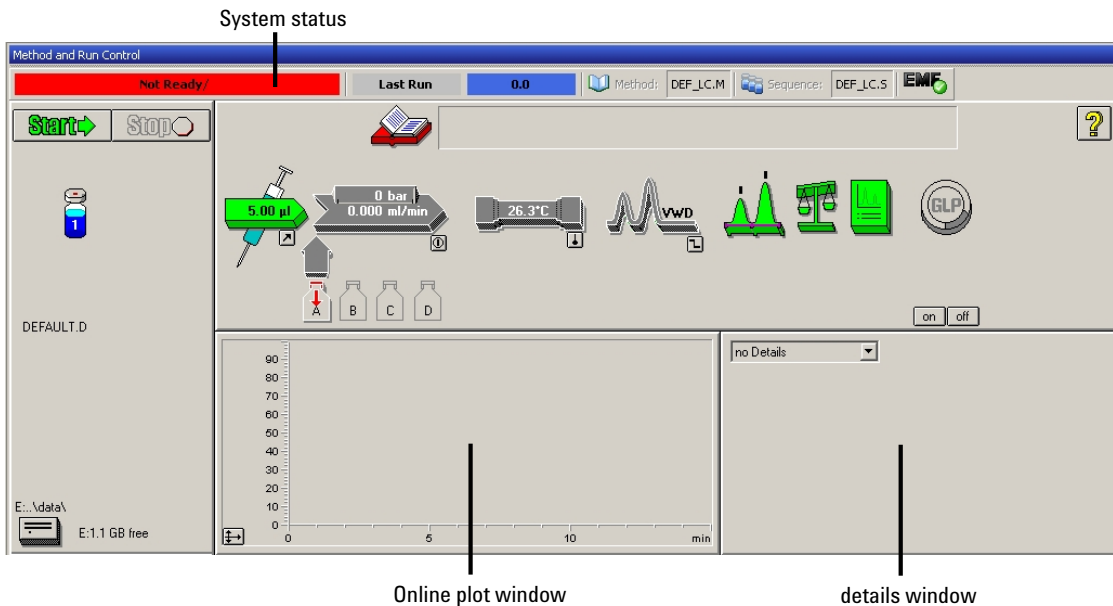

Figure 17 Initial Agilent ChemStation screen (**Method and Run Control**)
- 3 Start the Agilent ChemStation software. If the pump, autosampler, thermostatted column compartment and detector are found, the Agilent ChemStation screen should look like shown in Figure 17 on page 61. The System status is red (**Not Ready**).